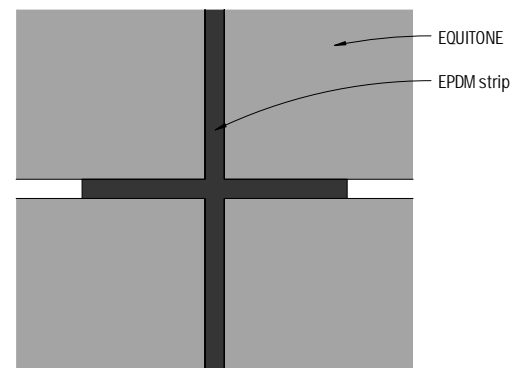

Figure 4: Open horizontal joint junction
- 1) In Figure 4, visible part of the support frame (battens) and weather barrier may be coated black with suitable paint.